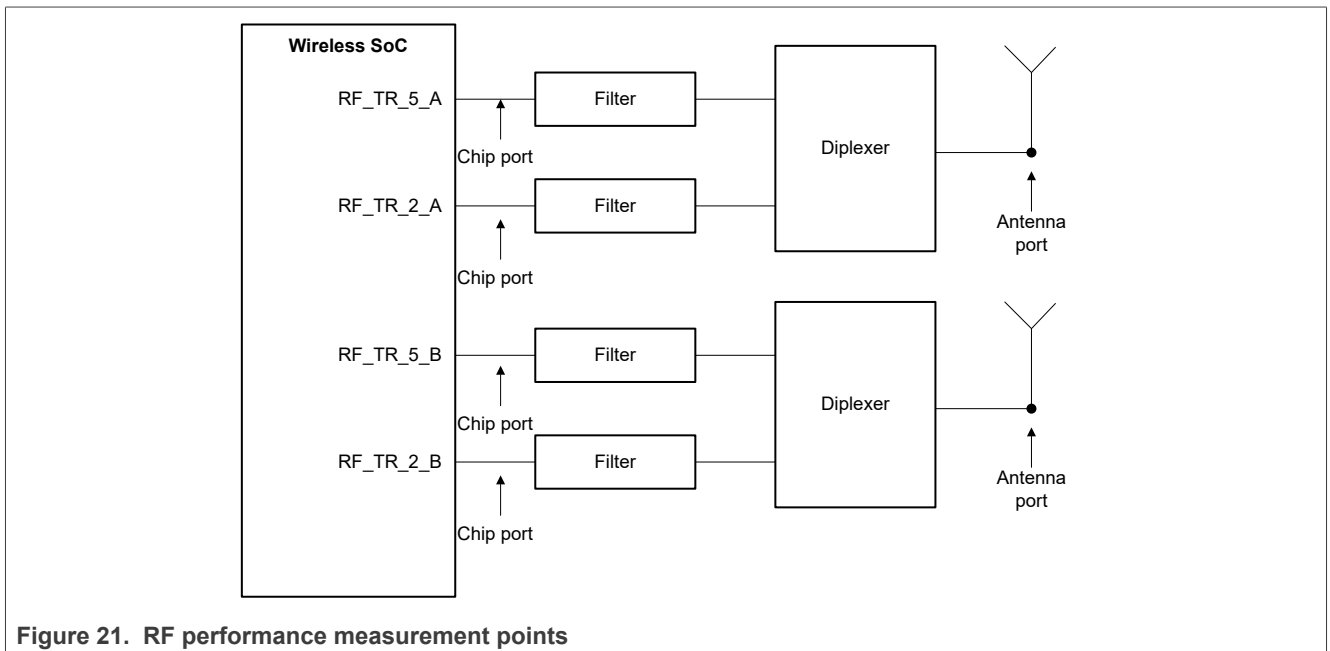

Figure 21. RF performance measurement points
**Note:** In Figure 21, Wireless SoC is IW623S.